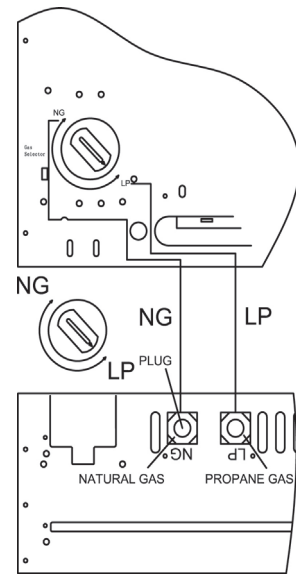

Figure 16
2. For propane gas, press in knob using a flat screwdriver with a blade the thickness of a quarter and turn knob counterclockwise  until the knob locks into the LP position, see Figure 16. Fuel selection device must be locked in the LP position. Do not operate heater between locked positions.